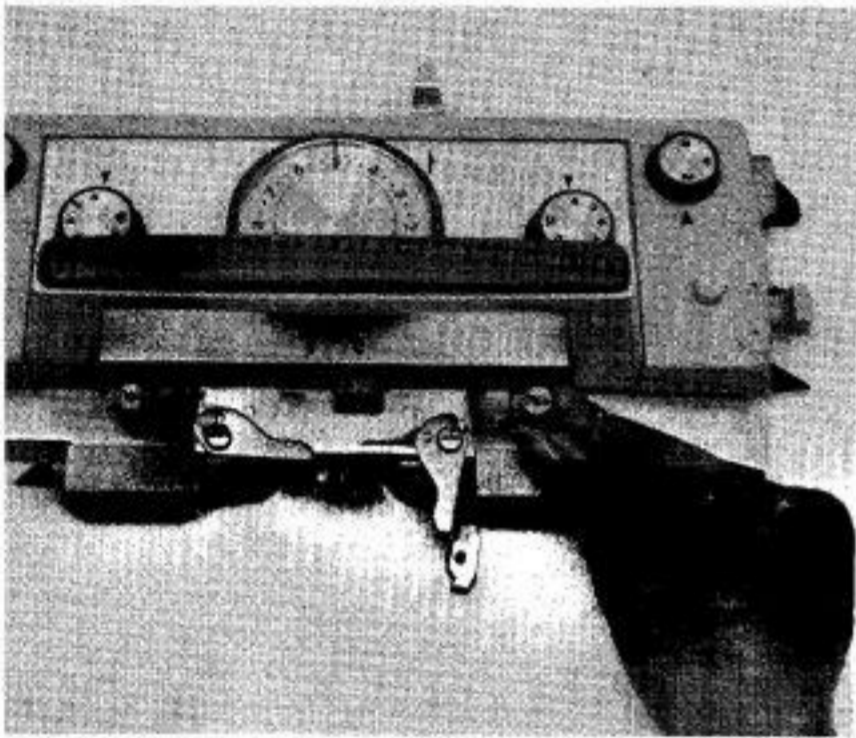

Fig. 16
7. Remove the feeder arm from the carriage of the main machine by loosening the two knurled nuts. (Fig. 16)